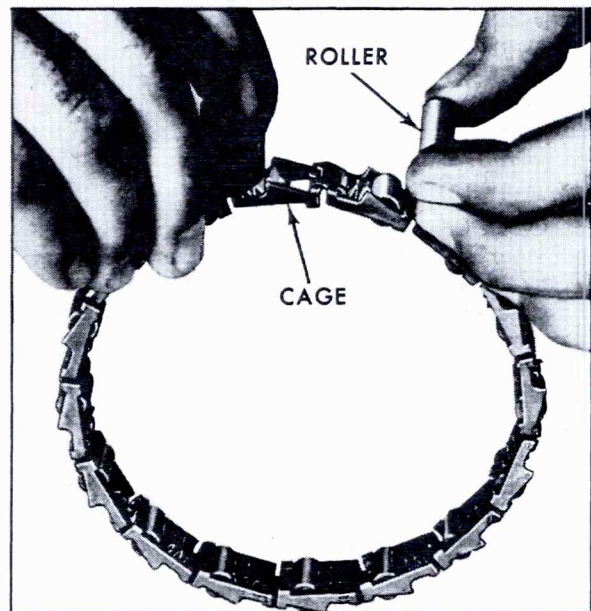

Fig. 7-185 Installing Roller in Roller Clutch Cage
p. Install rollers that may have come out of roller clutch cage, by compressing energizing spring with forefinger and inserting roller from outer side, Fig. 7-185.